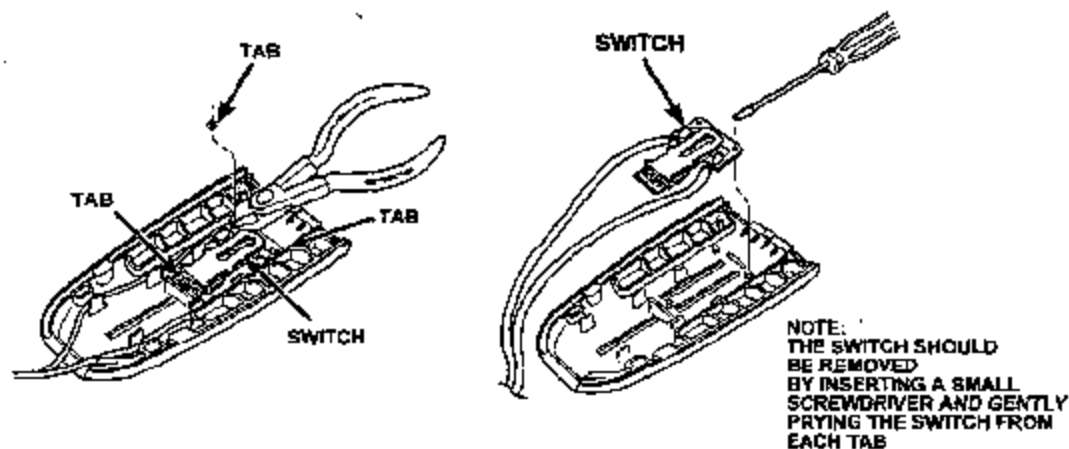

Figure 4
7. **Driver's Side Buckle Only:** Remove the heads of the three plastic tabs which secure the seat belt switch to the lower cover using small side cutters or a razor blade (Figure 4).
8. **Driver's Side Buckle Only:** Carefully remove the switch from the mounting tabs by using a small screwdriver and gently prying the switch from each tab (Figure 4). Discard the lower seat belt buckle cover.